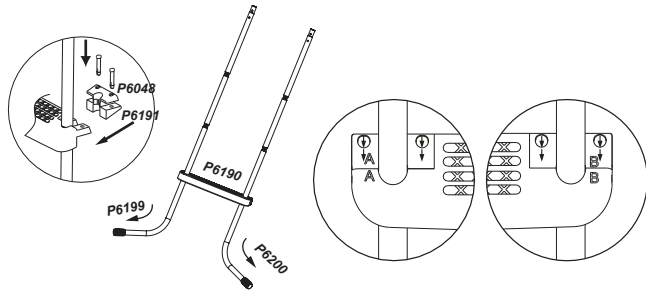

Figure 3
3. Support Board Installation (figure 3):